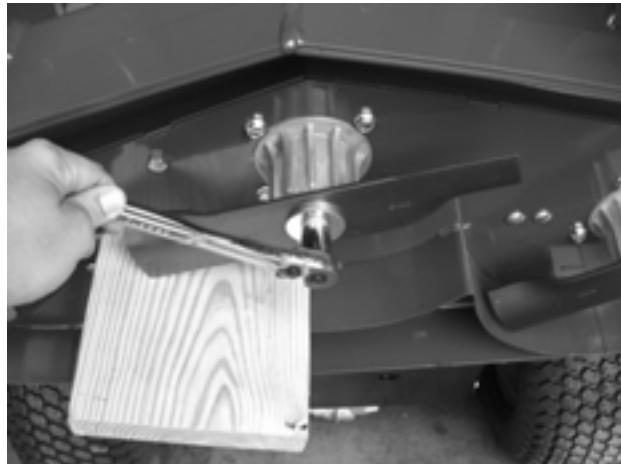

Figure 48
2. Secure blades so that they will not spin, and remove blade **Figure 48**.